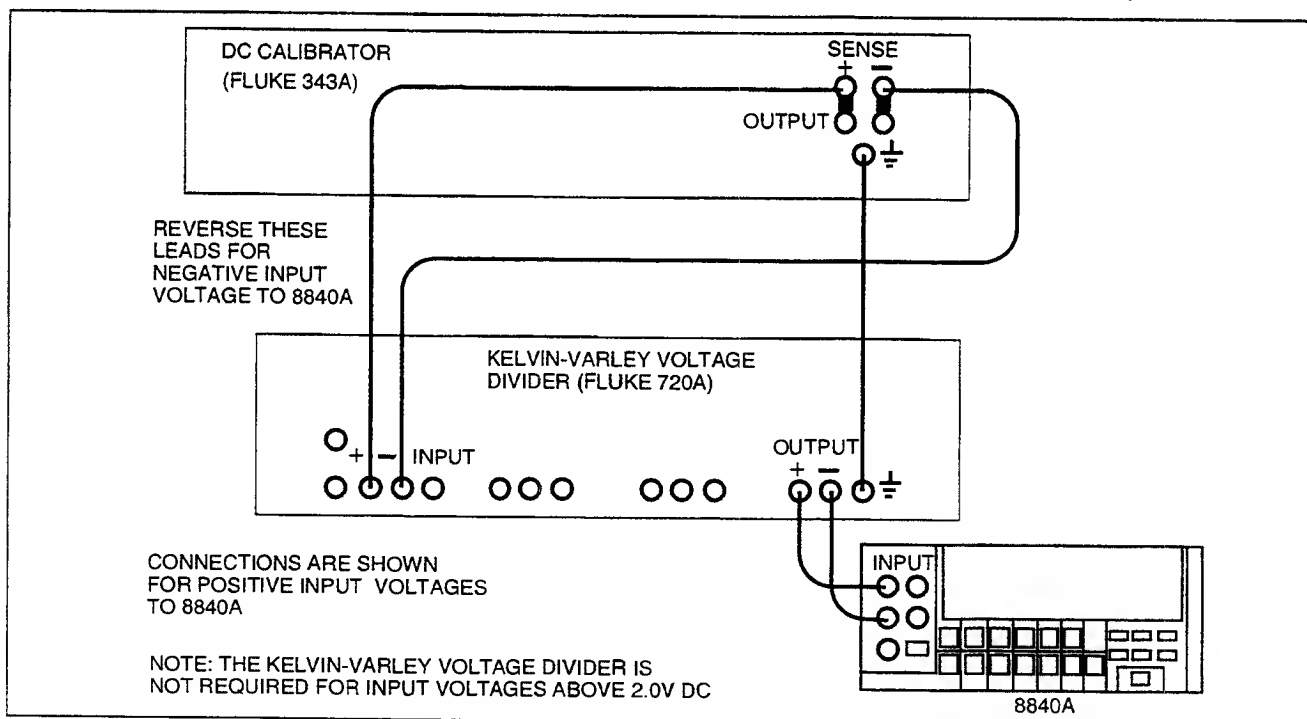

Figure 6-1. Connections for Kelvin-Varley Voltage Divider
3. Connect the DC Calibrator (see Table 6-1) to provide a voltage input to the HI and LO INPUT terminals. If using the Fluke 343A and the Kelvin-Varley Voltage Divider instead of the Fluke 5440A, connect the test leads as shown in Figure 6-1.